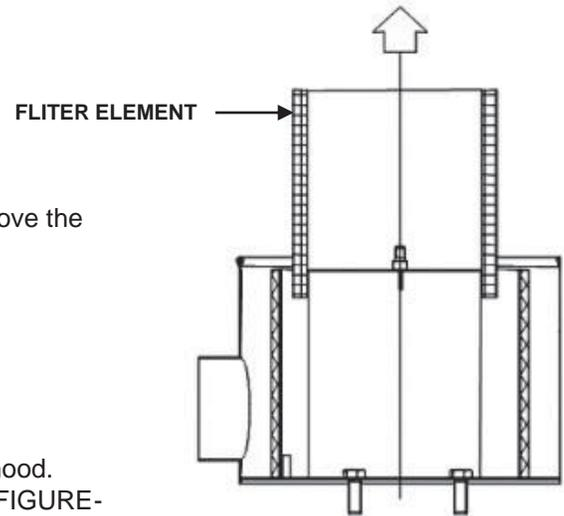

FIGURE-4.12
- Replace the filter element as shown in Figure-4.12.